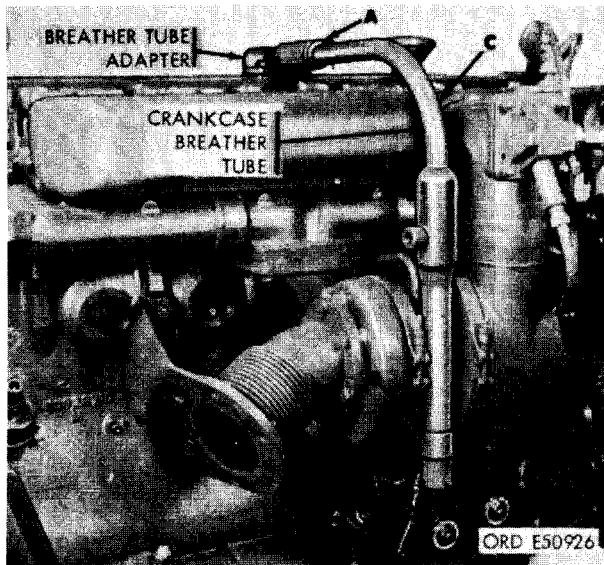

FIGURE 44. REMOVING OR INSTALLING CRANKCASE BREATHER TUBE (LATE MODEL ENGINES).
- (1) Figure 44. (A) Loosen 1-1/4-inch hose clamp securing rubber hose to breather tube. (B) Remove 1/4-inch plain nut and 1/4-inch lock washer securing crankcase breather tube to turbosupercharger bracket. (C) Remove crankcase breather tube.
- (5) Refer to figures 44 through 53 and reverse the sequence of illustrations and instructions to install the turbosupercharger assembly.